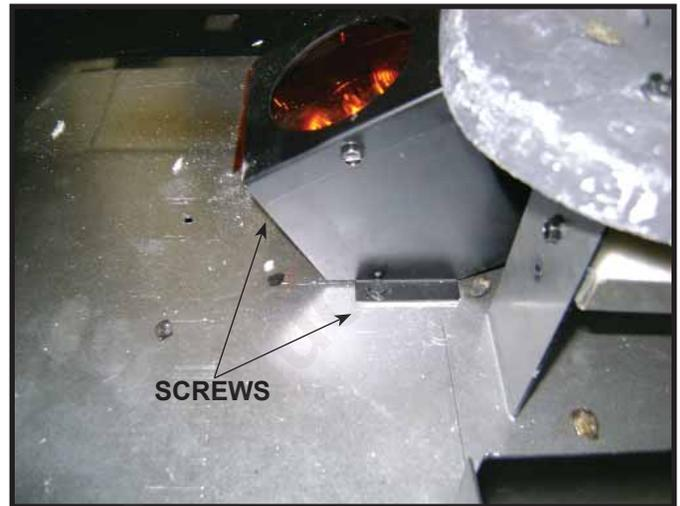
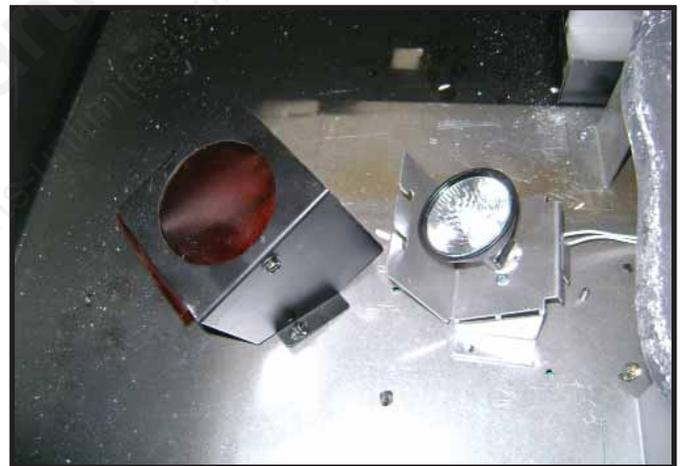

Figure 14.11 Light Housing Removal
Figure 14.12 Light Housing Removed, Bulb Installed
2. Install the two accent lights by removing (2) screws that hold the light housing to the firebox bottom. Install bulb by inserting the 2 pins on the bulb base into the 2 holes in the socket. See Figure 14.11 and Figure 14.12.